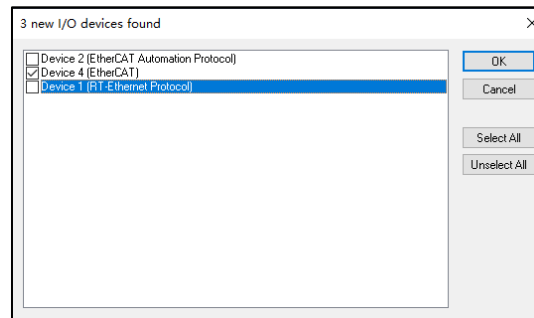

Figure 14: Choose the Ethernet Port
- b. If the computer has more than one available port, select the correct Ethernet port (see Figure 14 on page 25).